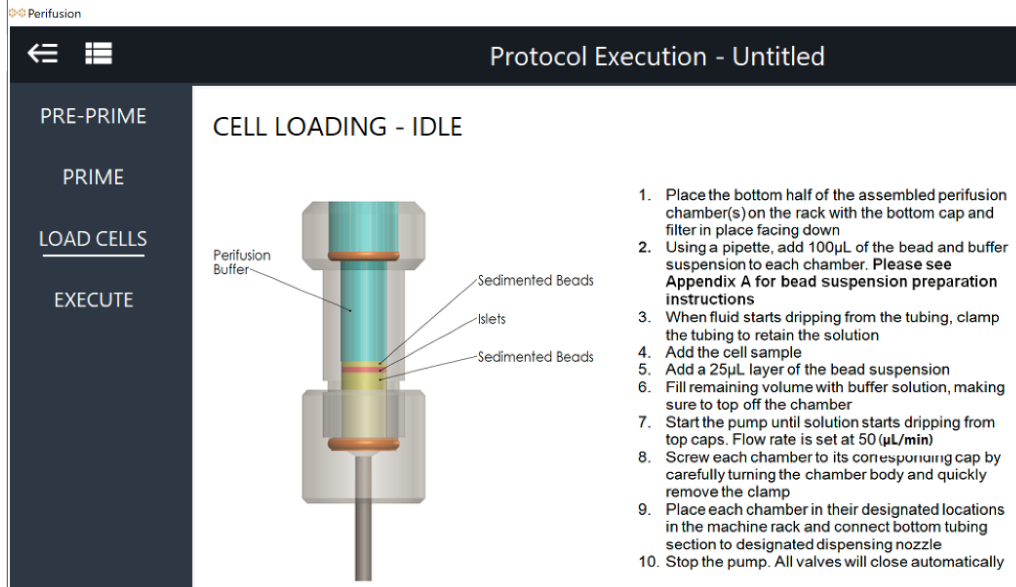

Figure 50: Cell Loading
3. Add 100 - 150 $\mu$ L of premixed bead suspension to each chamber (**Please see Appendix A for bead suspension preparation instructions**). Do not add more than  $\frac{1}{4}$  chamber of sedimented beads (Figure 50). It is important to have a column of PB in the chamber to trap any bubble floating. If necessary, remove any excess of beads with a pipette. If there is no PB on top of the sedimented beads, adding more PB to the chamber will facilitate the removal of excess beads.